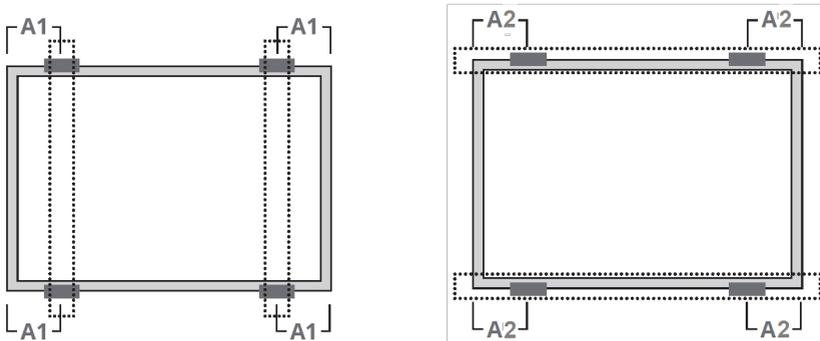

Figure 9: Side Clamping Ranges of the SPVxxx-R60LWMG/SPVxxx-R60LBMG Modules
6. For mounting the supporting rails on the frame, slide bolts through the rail grooves next to the four clamp locations. Clamp positions are of crucial importance for the reliability of the installation. The clamp center lines must only be positioned within the ranges indicated in *Figure 9 and Table 4*, depending on the configuration and load.